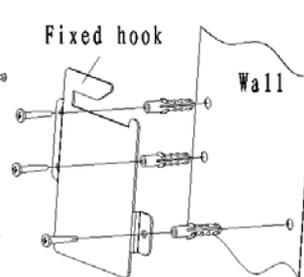

Figure N.2.4
- 4) Select the location for mounting the printer with wall mount systems, It needs at least 15 cm free space to the right of the location. Drill three \varnothing 8 mm holes in the wall using the Fixed-Hook-Plate as a template. Insert three plastic plugs (\varnothing 8 mm x 40 mm) in these holes and make sure that the plugs are completely inserted in the holes. Mount the Fixed-Hook-Plate onto the wall with three screws (\varnothing 4.8 mm x 30 mm) as shown in figure N.2.4. Please note that these screws and plastic plugs are not supplied with the Wall mount system.